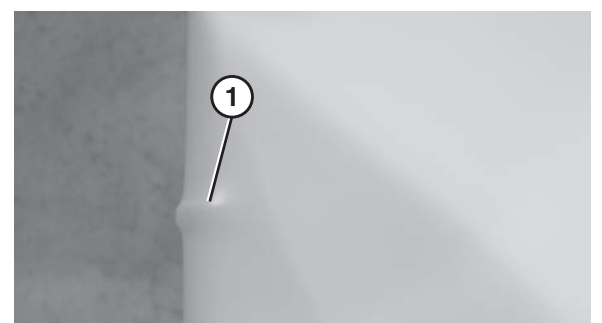

Figure 53
For v-guide belts, track until the bulge in the conveyor belt (**Figure 53, item 1**) lies flat.